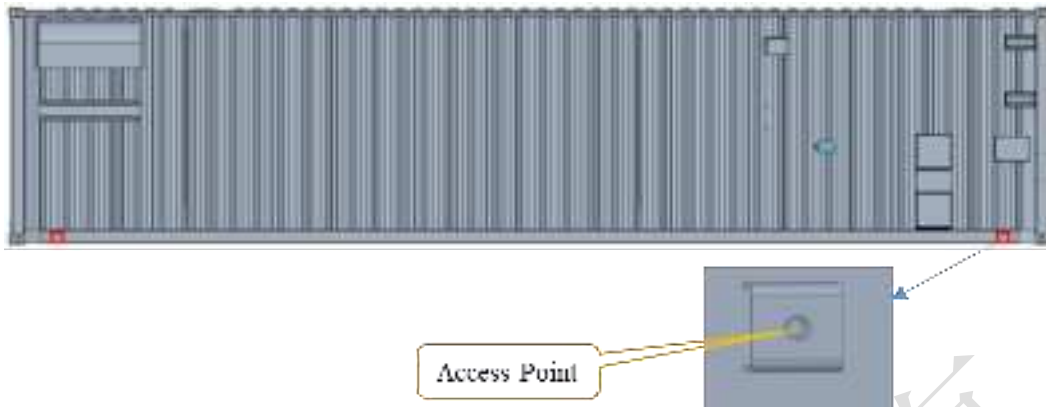

Figure 6.7 Schematic diagram of container grounding location
- b) Container on both sides of the grounding studs, the need for reliable grounding of the container shell, the container should be at least diagonal two or more reliable grounding, the specific location of the Figure 6.7.